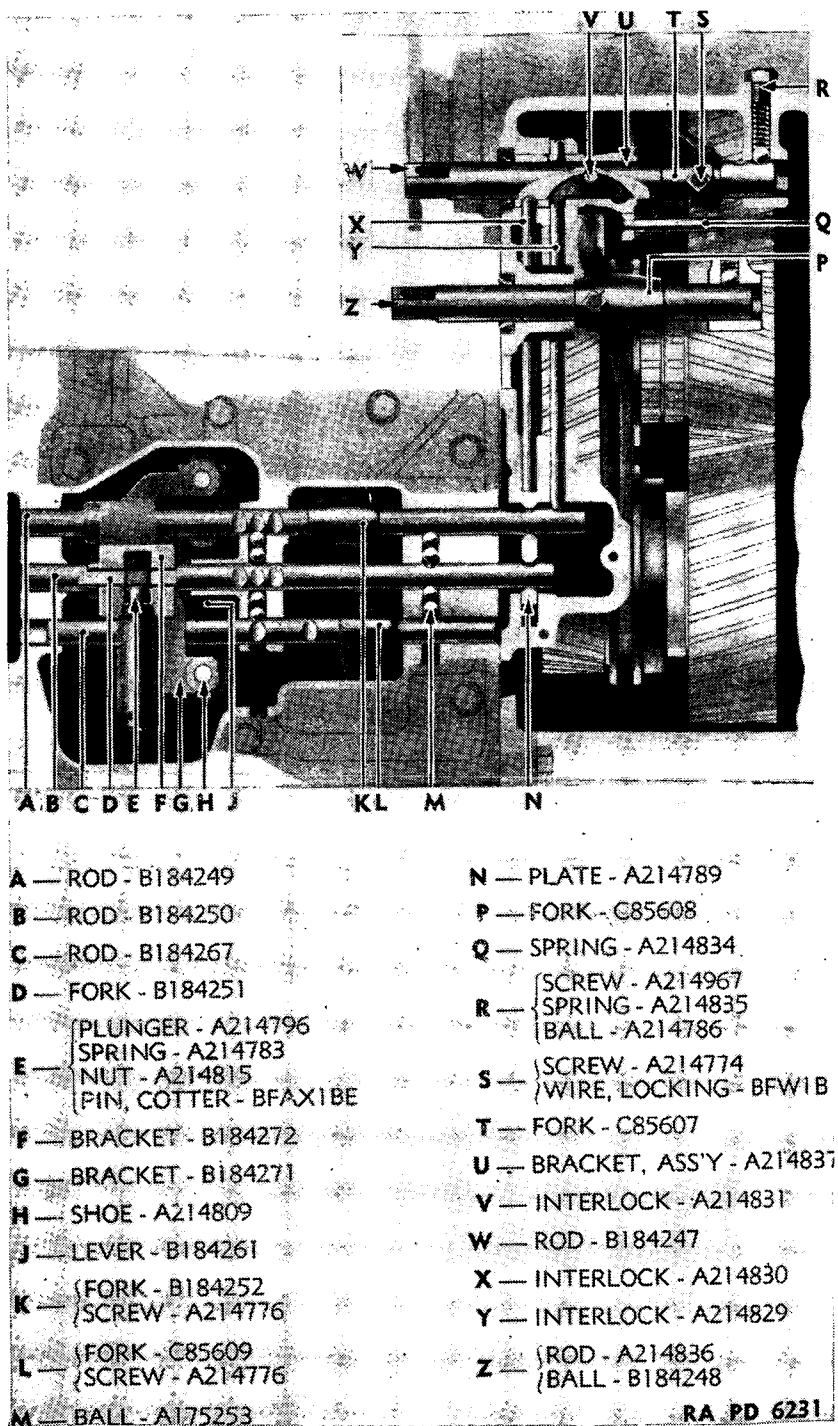

FIGURE 79.—Transmission shifter mechanism, sectionalized.
when the third of the shift rods is being moved to engage the desired speed gears (fig. 79). When the first and second speed shift rod is moved, the two right-forward interlock balls are forced out of the recess in the first and second speed shift rod into the recess in the third and fourth speed shift rod, thereby locking the latter in position. The two right-rear interlock balls are forced out of the recess in the shift rod in the same manner and likewise lock the third and fourth speed shift rod. The interlock pin in the third and fourth speed shift rod is forced against the two left-rear interlock balls which lock the reverse speed shift rod. Moving the third and fourth speed shift rod forces all eight balls out of the recesses in this rod and all eight act to lock the other two shift rods. Moving the reverse speed shift rod forces the two left-forward interlock balls against the third and fourth speed shift rod and they lock it. The left-rear balls are forced out of the recess in the reverse speed shift rod but drop onto the flattened end of the rod and therefore do not act to lock either of the other two shift rods. If the end of the reverse shift rod were not flattened, the interlock balls, by means of the interlock pin, would lock the first and second speed shift rod; and the automatic shift into first speed required when shifting into reverse would be prevented.
(11) A system of interlocks is provided in the transfer case and transmission (fig. 79). These interlocks are so arranged that *front drive must be used* in first and reverse speeds with the transfer case in underdrive; *front drive may be used* in first and reverse speeds with the transfer case in direct drive; and *front drive cannot be used* with second, third, and fourth speeds. The projecting lug on the right side of the direct and underdrive double yoke shift fork meets a similar lug on the front drive shift rod bracket (to which the bracket guide pin is attached), when the direct- and underdrive-shift rod and fork are moved toward the rear to shift the transfer case into the underdrive position. With the transmission shifted into neutral or any speed other than first or reverse, the front drive shaft shift rod bracket is free to slide on its shift rod, and it is pushed toward the rear by the underdrive shift fork when the transfer case is shifted into underdrive. With the front drive disengaged (front drive shift rod in forward position), and the transmission shifted into either first or reverse speed, the first speed shift rod interlock is forced down against the front end of the rocker-interlock on the front drive shaft shift rod. The rocker-interlock pivots on the interlock ball and the rear end of the rocker-interlock is forced into a slot in the front drive shaft shift rod bracket, thereby locking the bracket to the shift rod and preventing its sliding along the rod. Thus, with front drive out and the transmission in first or reverse speed, the transfer case cannot be shifted into underdrive because the lug on the fork would strike the lug on the front drive shaft shift rod bracket and would be